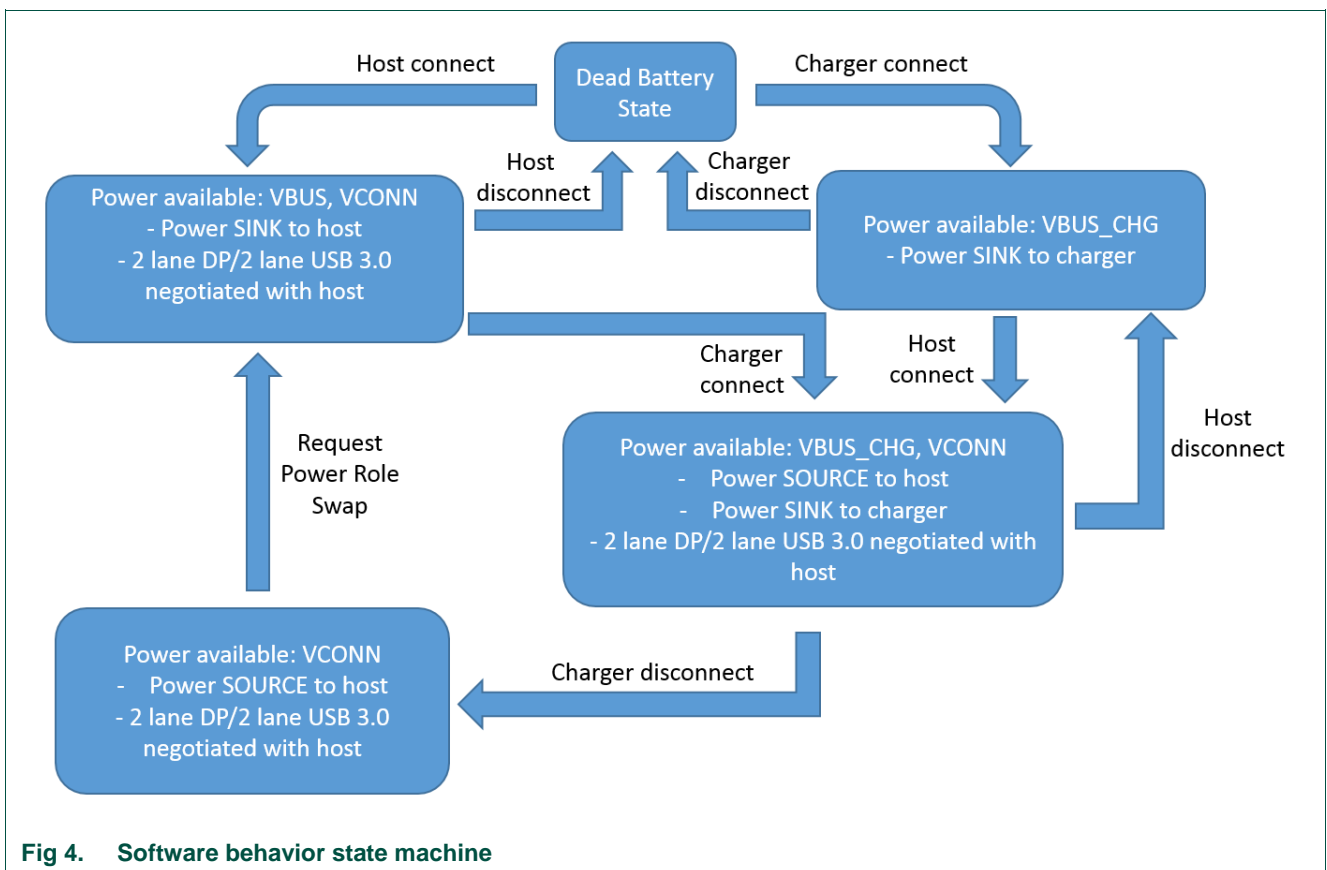

Fig 4. Software behavior state machine
Fig 4 shows a high level state machine that illustrates the state transitions when there is a Type-C attach or detach on either Type-C ports.
- As shown in Fig 4, when the adapter is connected to both a host and a charger, the board will source voltage to the host through VBUS, leaving only two available power options: VBUS from the charger and VCONN from the host. If the charger is unplugged while the adapter is still connected to the host, VCONN will be the only power source available for a brief moment in time. Depending on power consumed by USB 3.0 device, VCONN may not be able to provide enough current for the board to maintain power and cause the board to power cycle. There currently is no provision in the USB PD 2.0 specification for this specific scenario. In order to